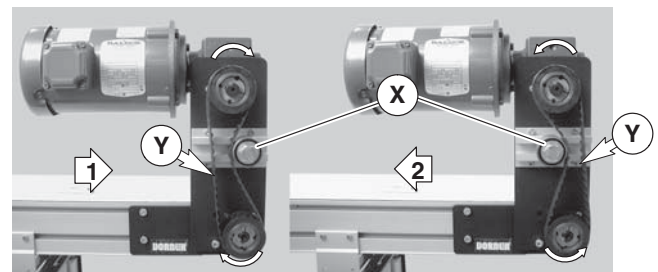

Figure 10
- Depending on conveyor belt travel (direction 1 or 2), locate timing belt tensioner (Figure 10, item X) as shown. Tension timing belt to obtain 1/8" (3 mm) deflection for 6 lb (3 Kg) of force at timing belt midpoint (Y). Tighten tensioner screw to 110 in-lb (12 Nm).
3. Depending on conveyor belt travel (direction 1 or 2), locate timing belt tensioner (Figure 10, item X) as shown. Tension timing belt to obtain 1/8" (3 mm) deflection for 6 lb (3 Kg) of force at timing belt mid-point (Y). Tighten tensioner screw to 110 in-lb (12 Nm).
5. Depending on conveyor belt travel (direction 1 or 2), locate timing belt tensioner (Figure 10, item X) as shown. Tension timing belt to obtain 1/8" (3 mm) deflection for 6 lb (3 Kg) of force at timing belt mid-point (Y). Tighten tensioner screw to 110 in-lb (12 Nm).